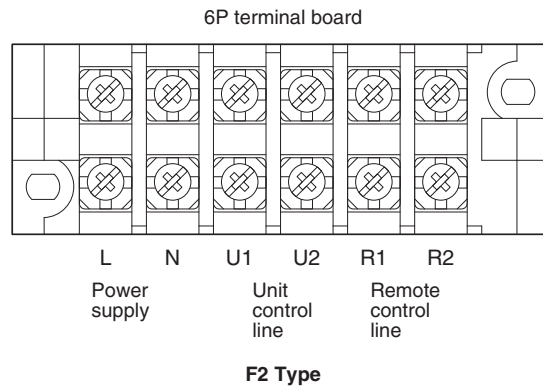

Fig. 4-2
- (1) Refer to Section 4-2. "Recommended Wire Length and Wire Diameter for Power Supply System" for the explanation of "B", "C", "D" and "E" in the above diagram.
- (2) The basic connection diagram of the indoor unit shows the terminal boards, so the terminal boards in your equipment may differ from the diagram. (Fig. 4-2)
- (3) Refrigerant Circuit (R.C.) address should be set before turning the power on.
- (4) Regarding R.C. address setting, refer to the installation instructions supplied with the remote controller unit (optional). Auto address setting can be executed by remote controller automatically. Refer to the installation instructions supplied with the remote controller unit (optional).